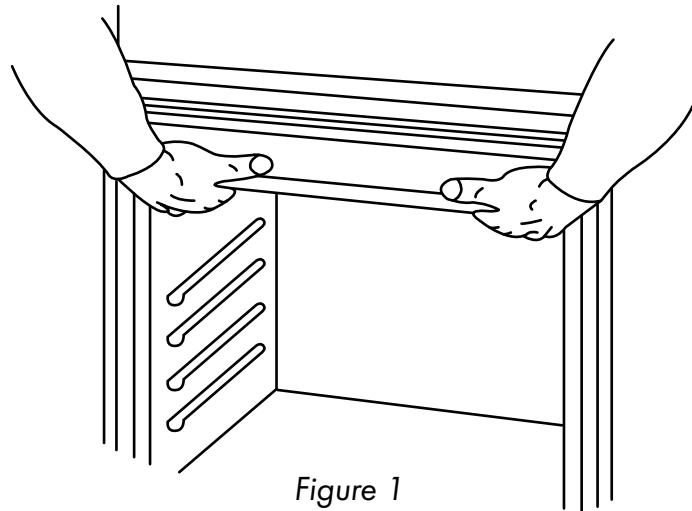

Figure 1
2. By hand, feed the flexible electrical supply conduit from the oven to the junction box (Figure 1).